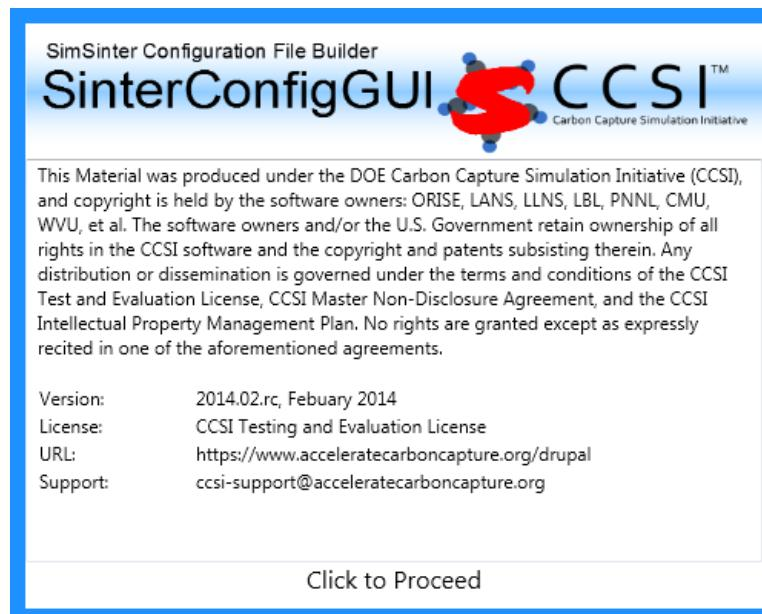

Figure 16: SimSinter Configuration File Builder splash screen.
2. Initially the SimSinter Configuration File Builder splash screen displays, as shown in Figure 16. Either click the “splash screen” to proceed, or wait 10 seconds for the screen to close automatically.